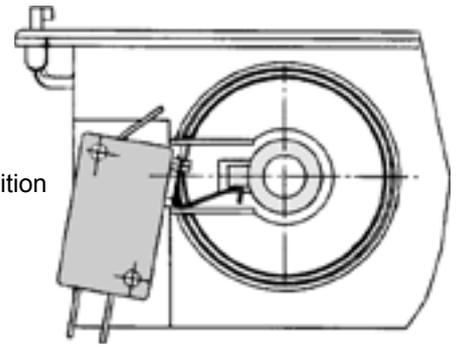

FIG 29
7. Turn the knob to the stop position and check that the switch "clicks", switches off (see fig 29). Turn back to the ignition position, check the operation and that the arm does not rub against the hub when the knob is turned.